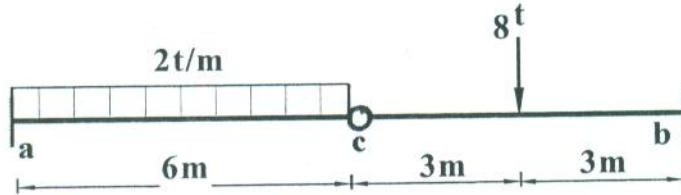

Fig. 1
b. Figure 1 shows plan of a beam AB with double cantilevers DEC. The cantilevers are carried a total ultimate loads, $P_u = 200kN$. It is required to carry out the following, (neglect the own weight):